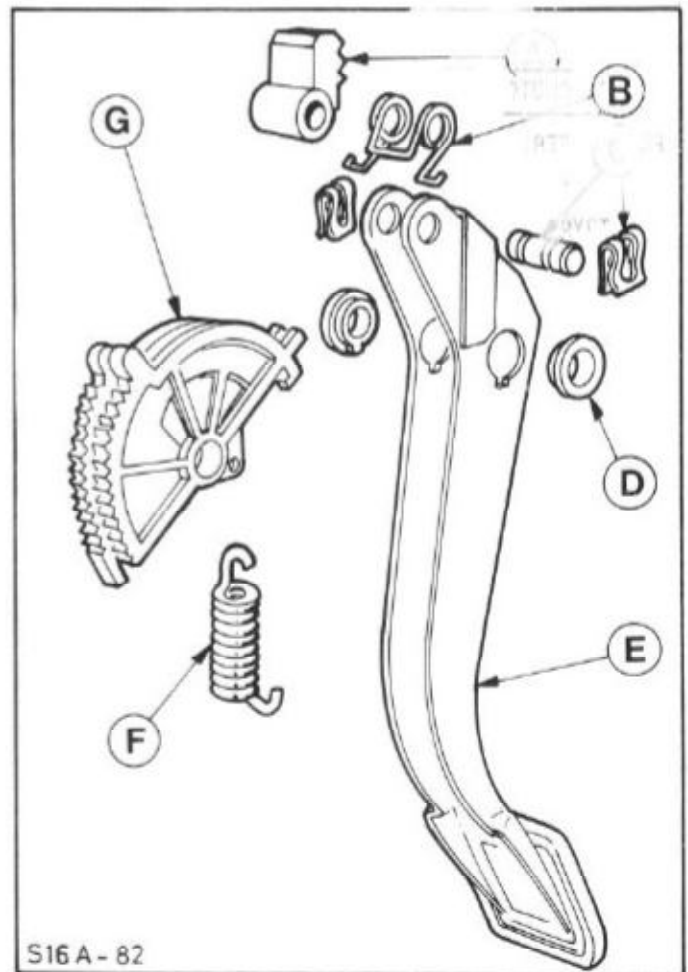
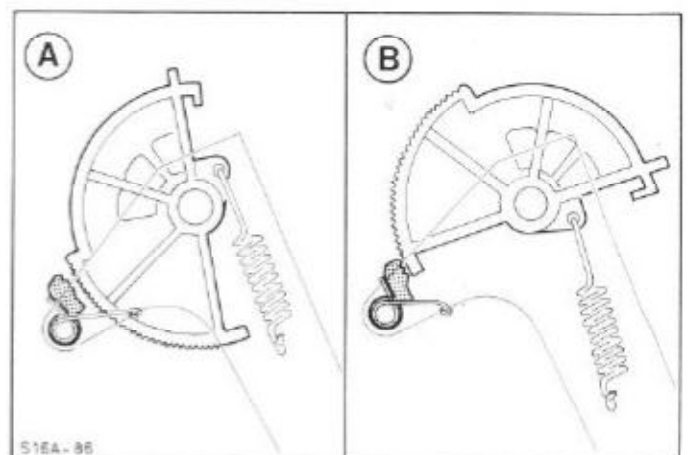

Fig.161. Clutch pedal and automatic adjusting mechanism.
Fig.162. A - Lift pawl, turn toothed segment
6. Install the automatic adjusting mechanism, Fig.161. Lubricate the bore in the toothed segment and the pawl with graphite grease. Insert the pawl and the spring and secure with the clip. Guide the toothed segment with the spring attached into the pedal and press the bushes into place. Lift the pawl and turn the toothed segment so that the teeth of the pawl rest on the part of the segment shown in Fig.162. Attach the tension spring in the pedal recess.